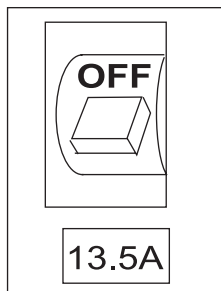

Figure 9. Main Circuit Breaker (OFF Position)
2. **NEVER** start the engine with the main circuit breaker in the "ON" position. Always place this circuit breakers (Figure 9) in the **OFF** position before starting.